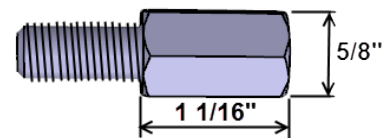

FIGURE 3
4. Inspect the stud adapter included in your kit. The hex section (between two flat surfaces) **must measure 5/8 inch (16mm)** (FIGURE 3).